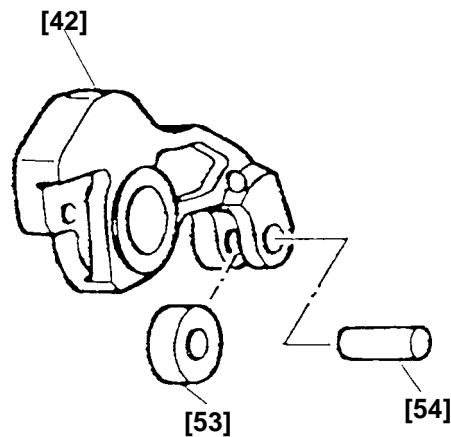

Fig. 26
(ii) Removal of Roller (A) [53] (Fig. 26)